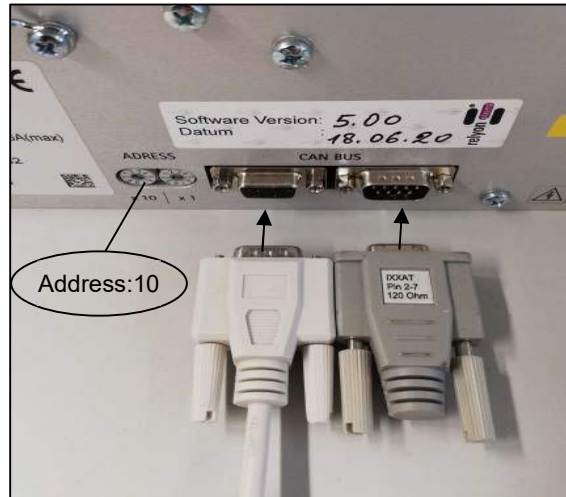

Figure 7: Wiring to PS2000
4. Connect the CAN cable (length 2m) (#2) to the rear connector of the power source PS2000 and terminate the CAN bus with the terminating resistor provided for this purpose, see also the operating manual of the power source PS2000 if applicable. If two power sources are used, they are connected to each other with another CAN cable. (Figure 7)